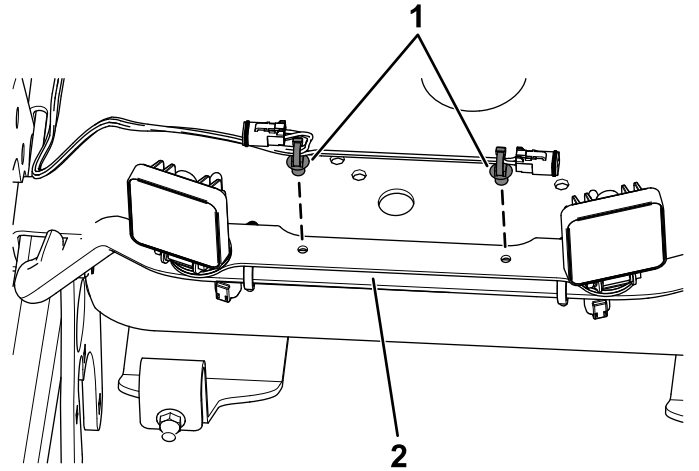

Figure 4
2. Secure the wire harness to the light bracket using the 2 push-mount fasteners on the wire harness (Figure 4).